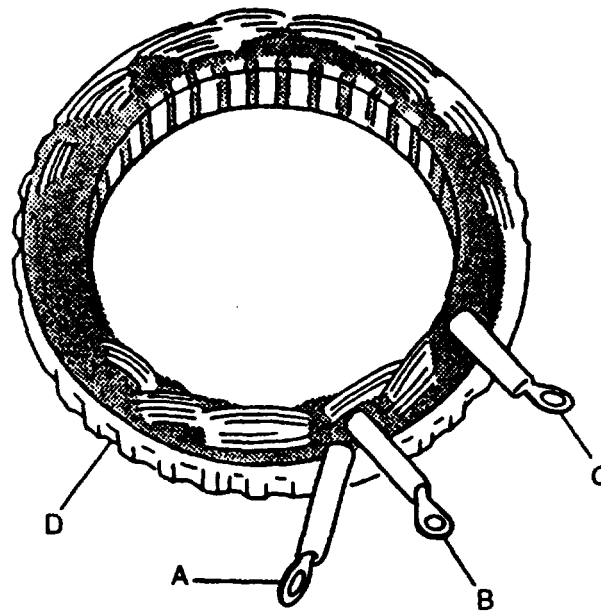

FIGURE 3-11. Testing Stator Windings
- d. Set multimeter for ohms and check stator (refer to FIGURE 3-11) for open circuits between point D (lamination) and each terminal A, B, and C. If continuity is noted between lamination and any terminal, stator is defective and must be replaced.
- e. Set multimeter for ohms and check stator windings (refer to FIGURE 3-11) for continuity between terminals A-B, A-C, and B-C. If open, replace stator.